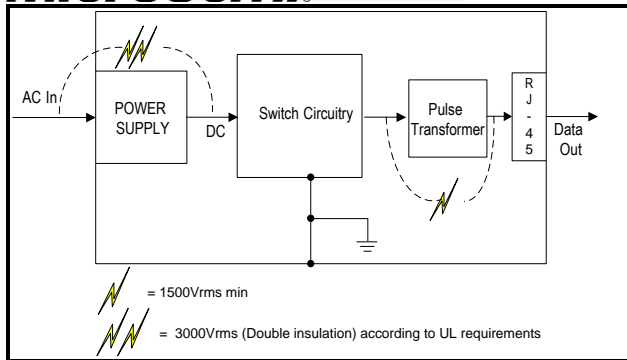

Figure 7: Standard Switch Circuitry
- ◆ For a switch with no PoE circuitry: isolation requirements between the physical inputs and the data connectors are met by using an isolated AC/DC power supply and isolated pulse transformers (see Figure 7).